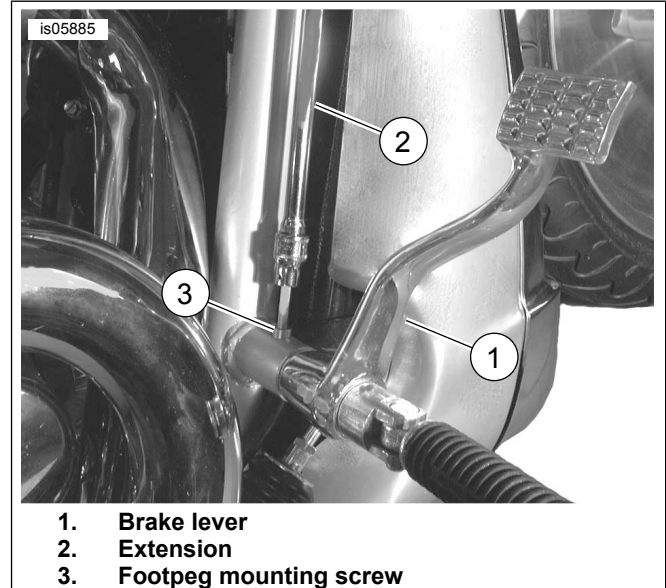

Figure 1. Remove Right Side Footpeg
- See Figure 1. Remove right side footpeg mounting screw and slide the mount out through the brake lever. Save screw for installation.